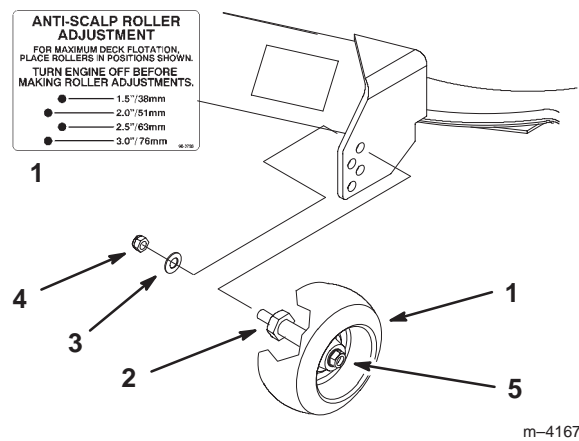

Figure 19
3. After adjusting height-of-cut remove nut and washer while holding stud with wrench (Fig. 19).
Note: Do not remove the wheel nut and washer (Fig. 19).
4. Select hole so gage wheel is positioned to the nearest corresponding height-of-cut desired (Fig. 19).
5. Reinstall the flange nut and spring disk. Torque to 40–45 ft-lb (54.2–61.0 N•m) (Fig. 19).